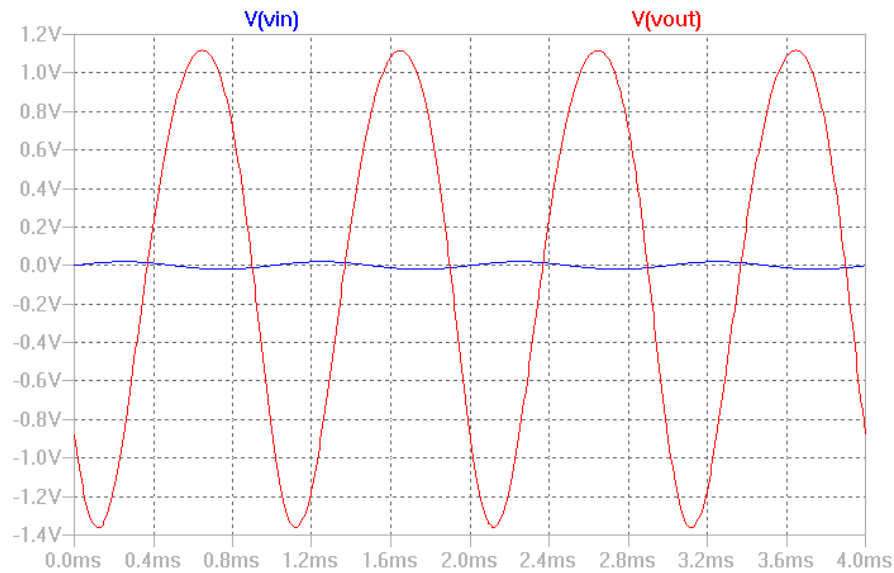

Figure 2.12: Transient analysis plot of the input and output voltage for the CE amp.
- When you move the cursor over the schematic, it will turn into a probe icon. Move this icon over v_{in} and click; repeat for v_{out} . You should see a plot similar to Figure 2.12.
- Notice the first peak appears a bit higher than the ones to follow. This is a result of seeing the amplifier in action before it has had a chance to “warm up”. Instead, set the stop time at 8ms and the time to start saving data at 4 ms. Place this new simulation command in the schematic window. The result is shown in Figure 2.12.
- Also play around with the “tools” menu item “color preferences”. For embedding figures into a Word document, the format of Figure 2.12 is **much better** than a figure with a dark background. Do not use a dark background for any work you will turn in.